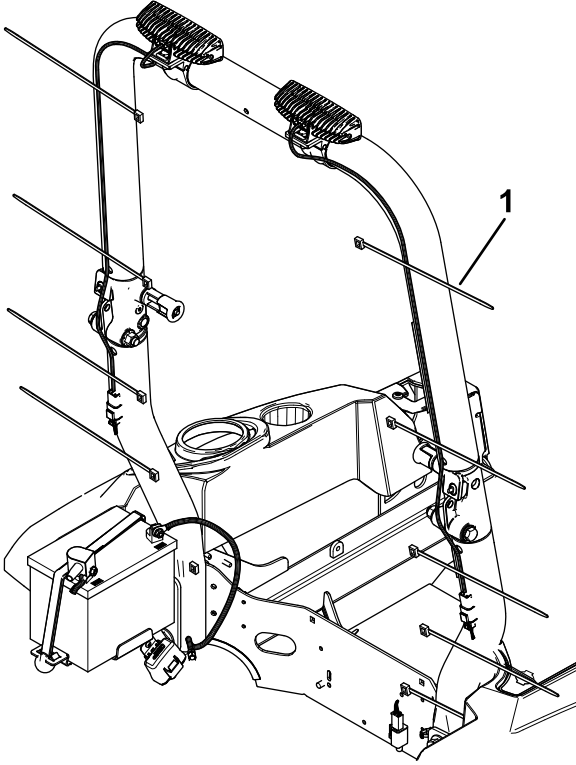

Figure 6
13. Coil the excess wire as necessary and use the remaining cable ties to secure the light harness to the machine (Figure 6).